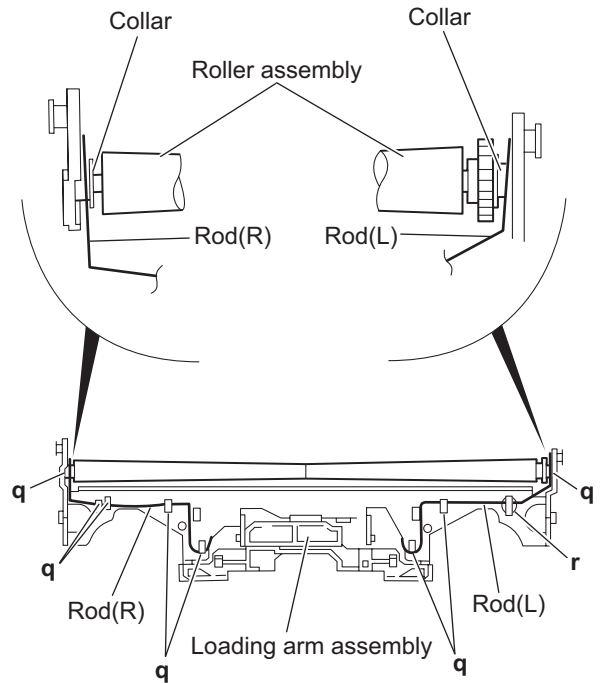

Fig.15
3.4.8 Removing the rod (L)(R)/roller assembly (See Figs.15 and 16)
- Release the rod (L) and (R) from the joints **q** at the bottom of the loading arm assembly. (See Fig.15.)
After attaching the loading arm assembly to the roller assembly, attach the rod (L) and (R). Attach the rods to the right and left collars of the roller assembly. (See Figs.15.)
When reattaching the rod (L) and (R) to the loading arm assembly, engage each joints **q** as shown in Fig.15. As joints **r** of the rod (L), let the rod through **r** before reattaching it.